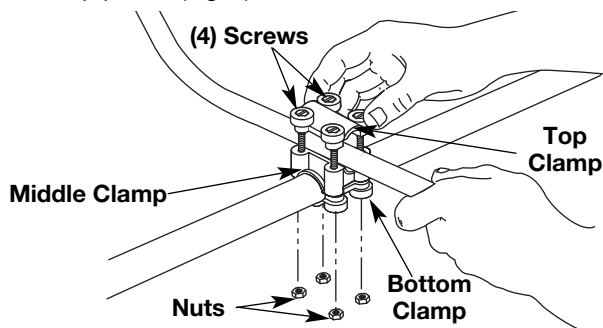

Fig. 1
1. Place the bull-horn handle between the top and middle clamp pieces (Fig. 1).